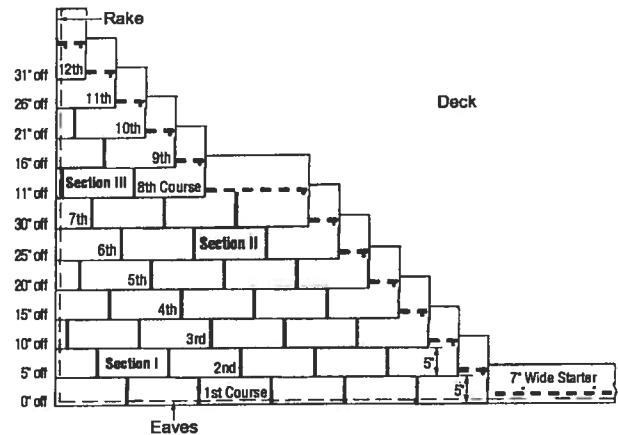

Figure 12-9: Five-Inch, Stepped-Off Diagonal Method.
1. Begin the second course by cutting 5" off the left end of a shingle and applying the 31" piece over the first-course shingle, flush with the left edge of the first-course shingle, and exposing the first course 5" (Figure 12-9).
3. Install "Section II" as shown in Figure 12-9 using full shingles against the seven courses in "Section I." This must be done before continuing with courses eight through 12 ("Section III"). These "Section II" shingles are to be butted-up against the "Section I" shingles that started courses one through seven. Fasten all shingles in the normal fashion.